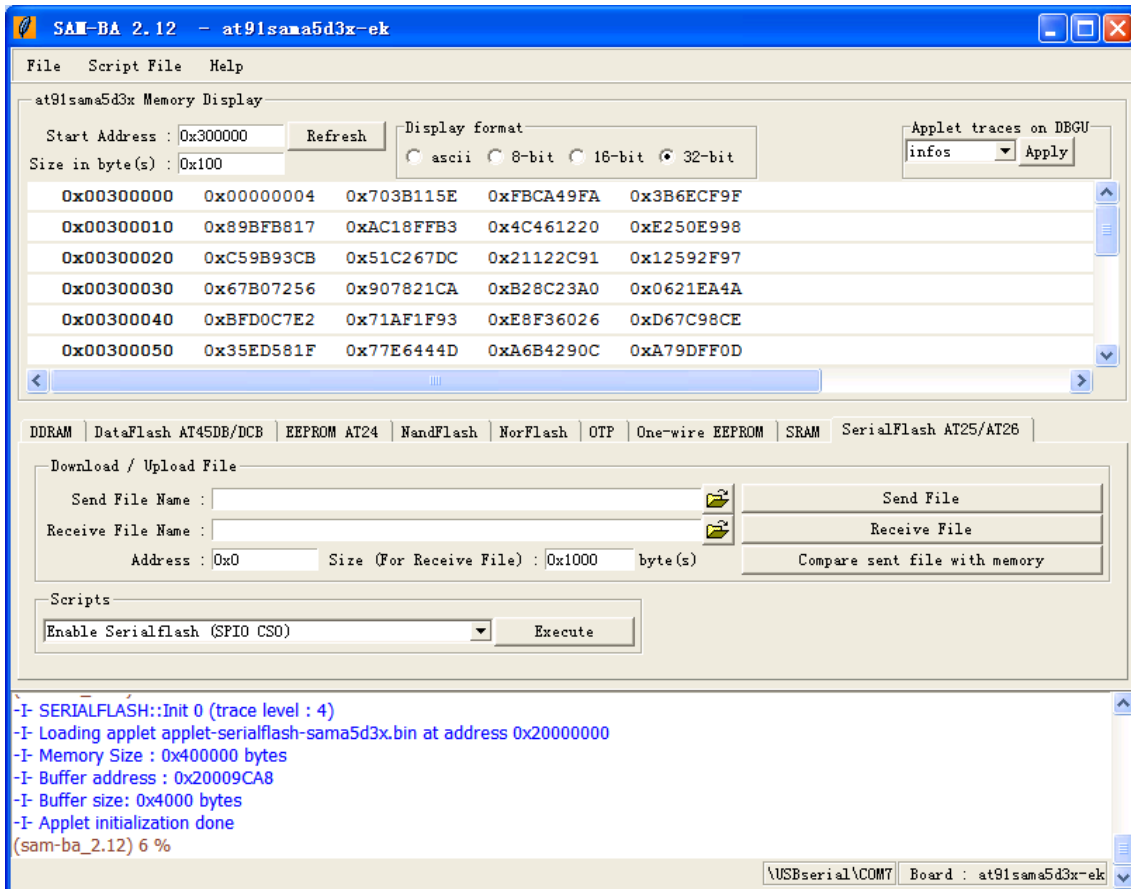

Figure 5.3.4 Enable the DATAFLASH
- Connect the **JP6**, select "**SerialFlash AT25/AT26**". And select the option "**Enable Serialflash (SPI0 CS0)**" on "**Scripts**" Pull-down menu, then click "**Execute**". As shown in figure 5.3.4: